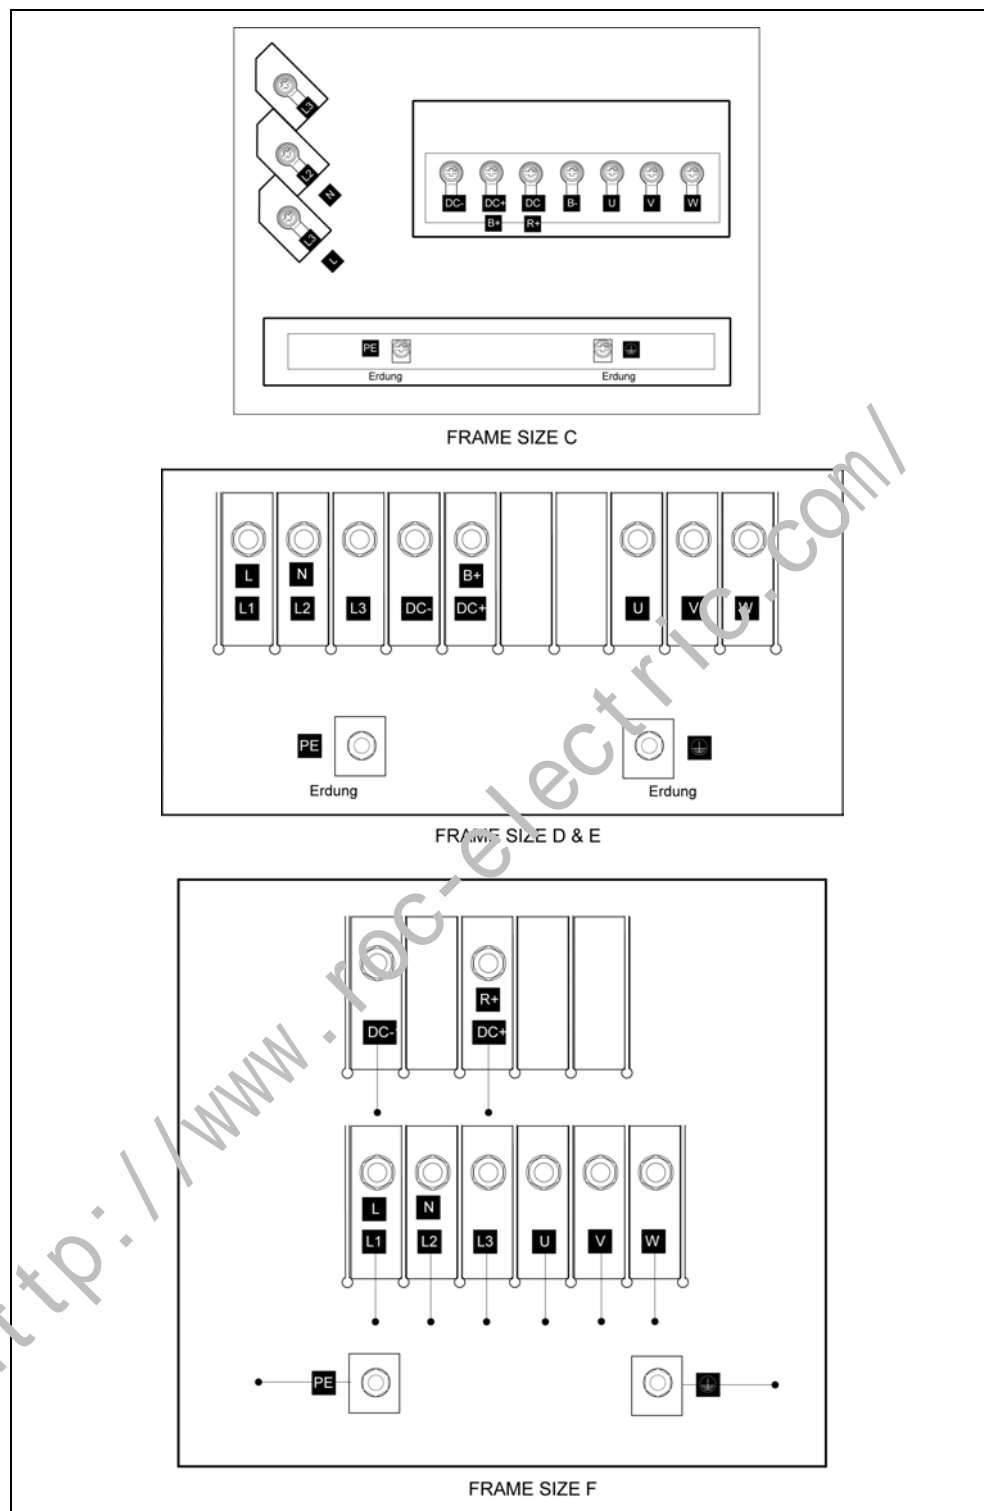
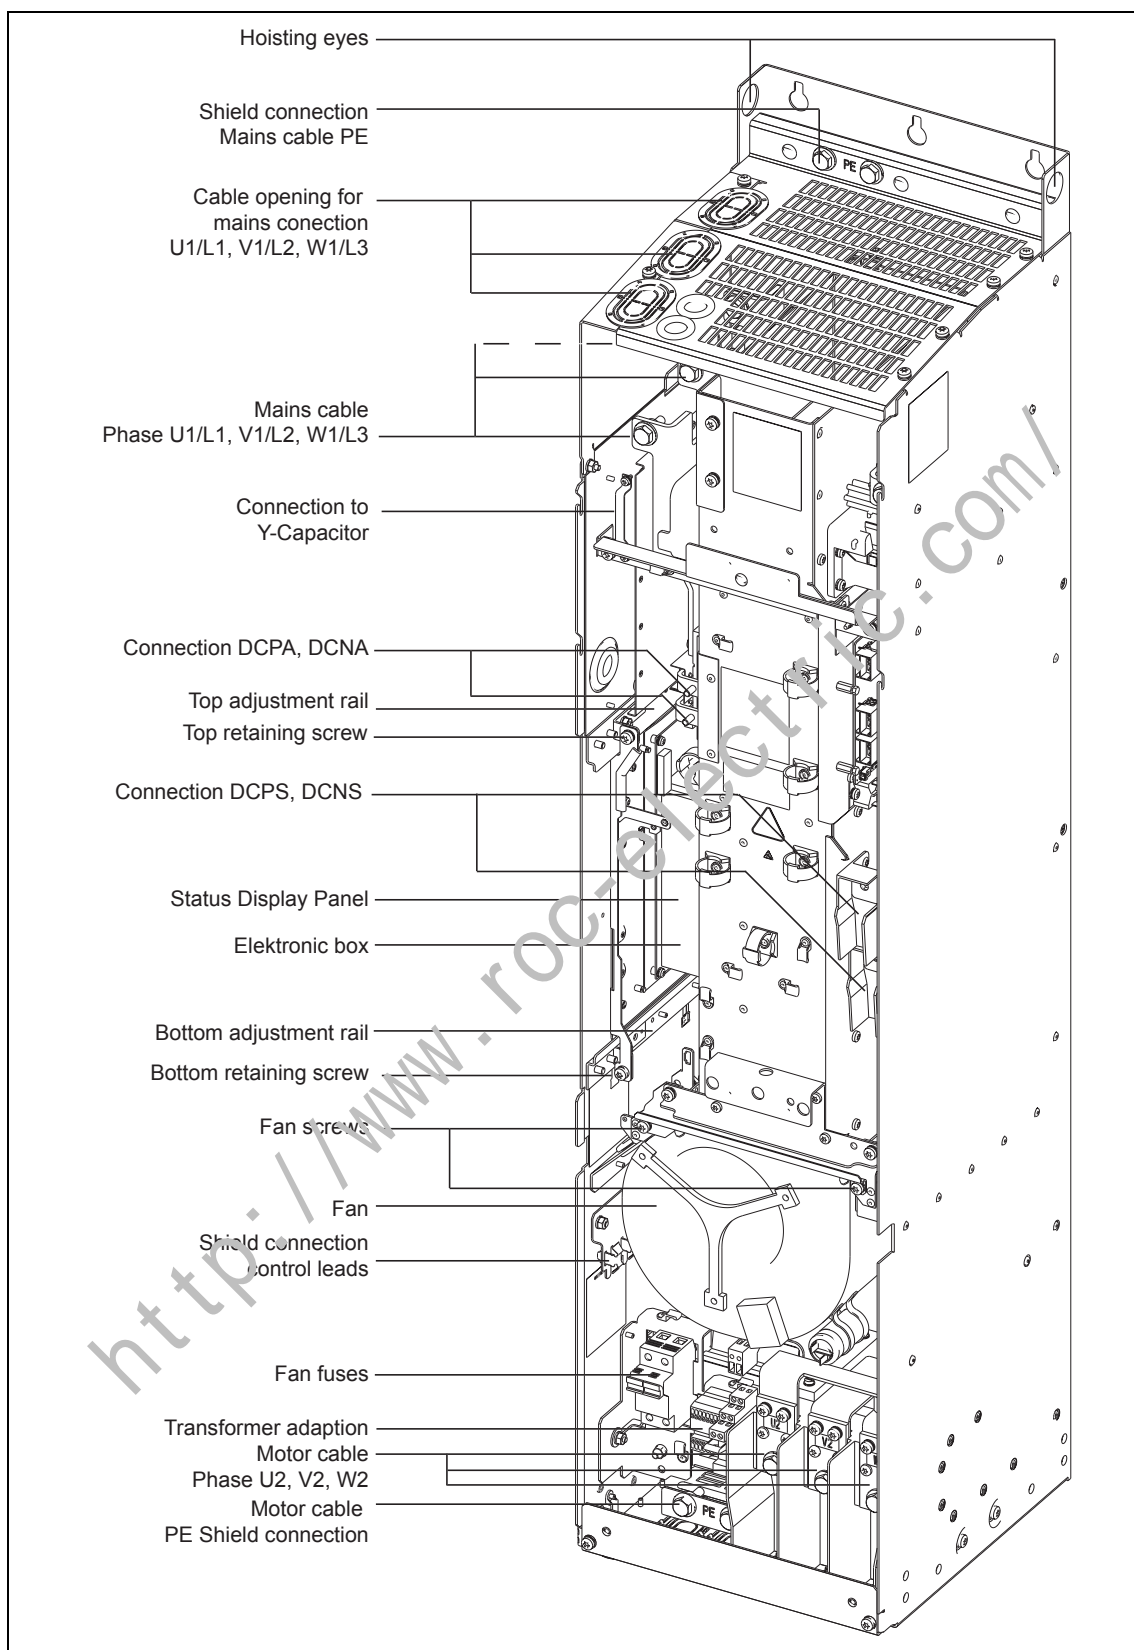
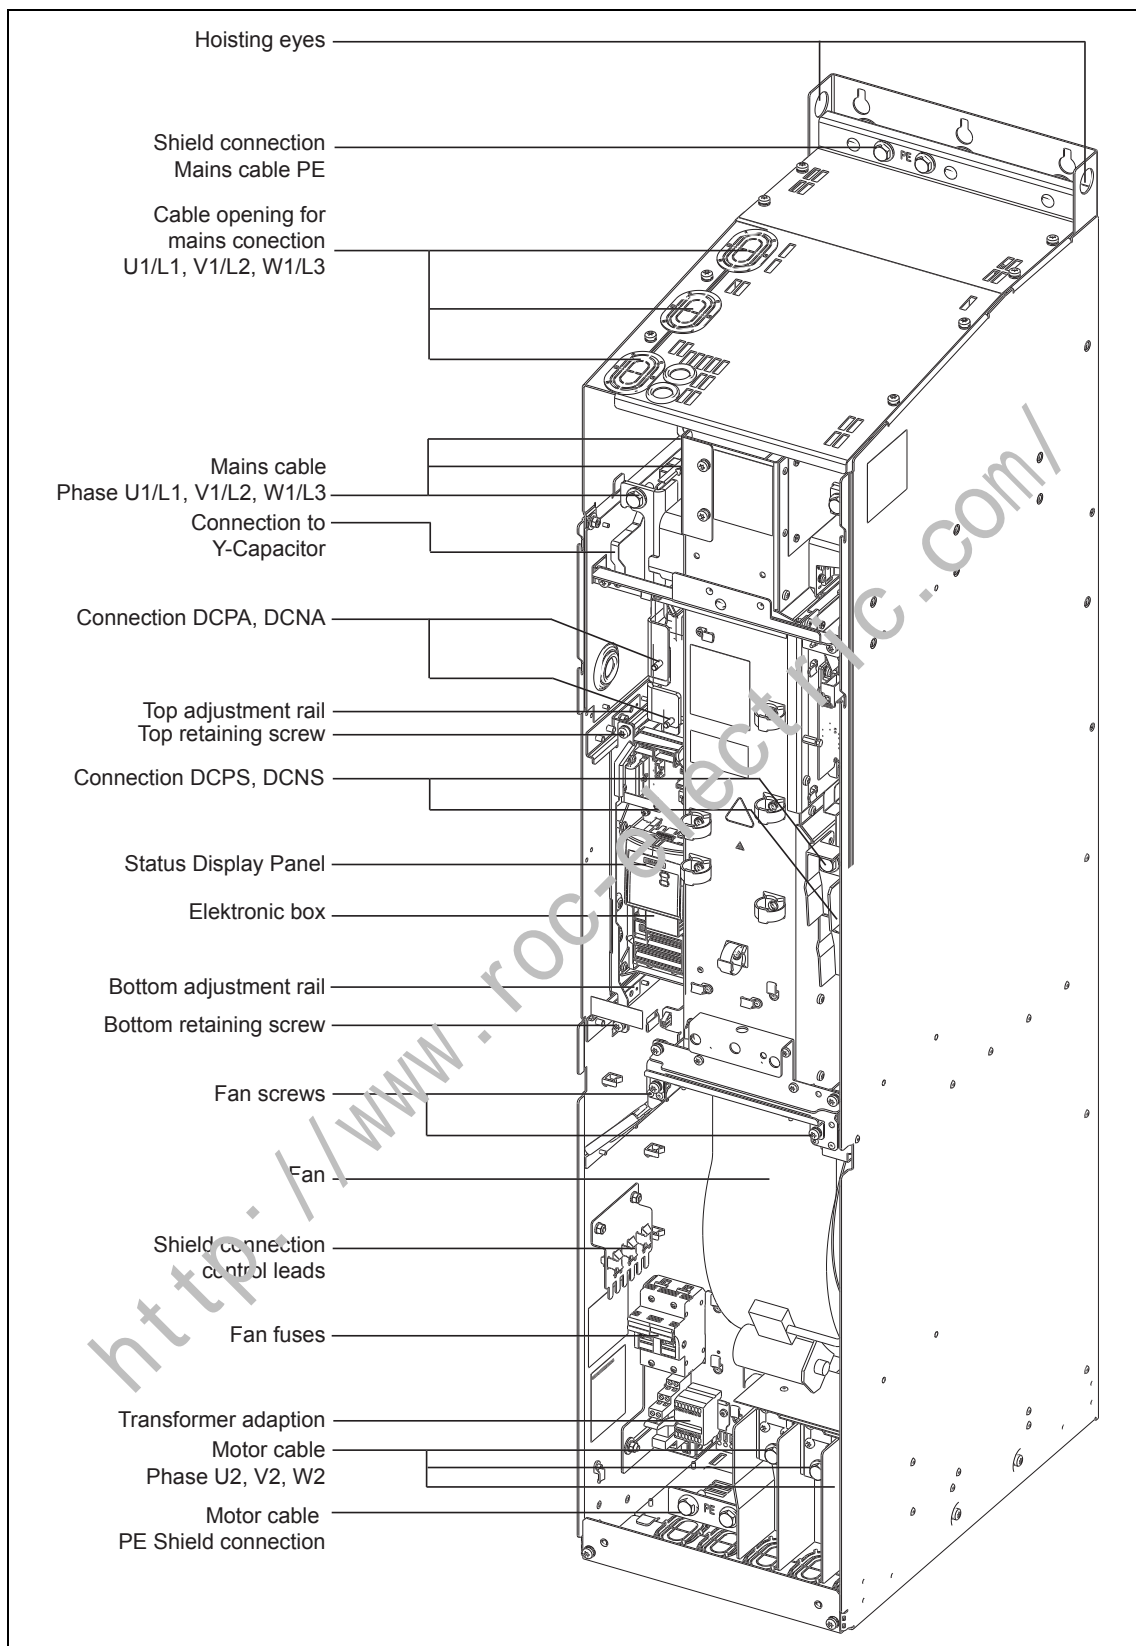

Figure 2-8 MICROMASTER 430 Connection Terminals, Frame Sizes C to F
Figure 2-9 MICROMASTER 430 connection drawing – frame size FX
Figure 2-10 MICROMASTER 430 connection drawing – frame size GX
1. Fasten the hoisting crane cable to the hoisting eyes on the inverter (2 eyes (see Figure 2-9 for frame size FX Figure 2-10 for frame size GX).
Access to the power supply and motor terminals is possible by removing the front covers (See Figure 2-8 to Figure 2-10). See also Appendix B
Connect the wire shields to the shield connection points shown in the connection drawing (see Figure 2-9 and Figure 2-10) .